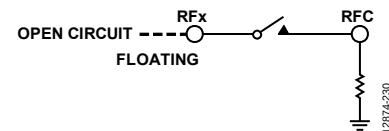
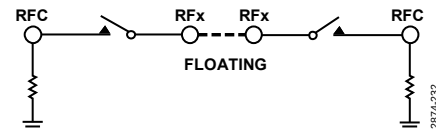
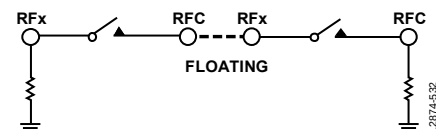

Figure 58. RFx Pins Left Open Circuit
Figure 60. RFx Pins of Two MEMS Switches Directly Connected
Figure 61. RFC Connected to RFx
The ADGM1304 has no internal impedance to ground, and charges can develop on the switch terminals, leading to unreliable switch behavior. To mitigate this behavior, provide a discharge path to all switch nodes. Figure 58 to Figure 61 show examples of cases to avoid where floating nodes can occur when using the switch. Conditions to avoid include the following:
- Leaving the RFx pins open circuit (see Figure 58).
- Connecting the RFx pin of two switches together directly or connecting the RFC pin to the RFx pin (see Figure 60 and Figure 61).